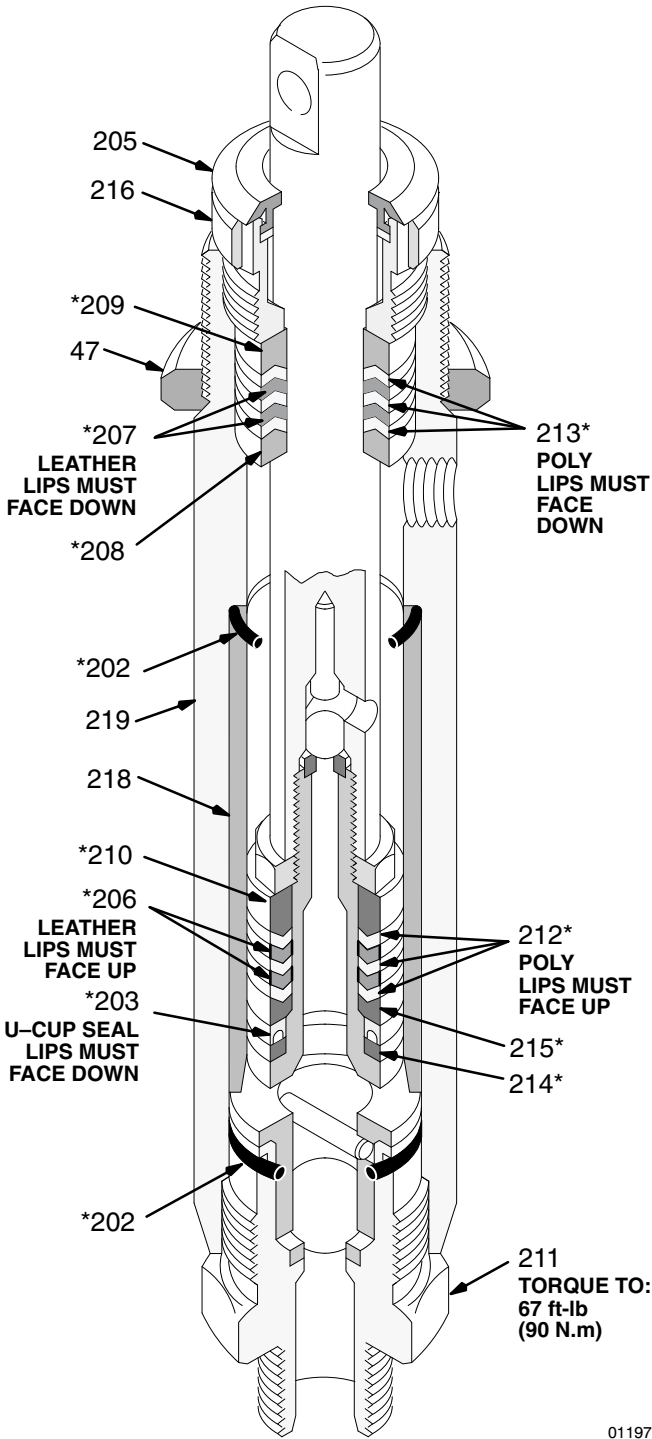
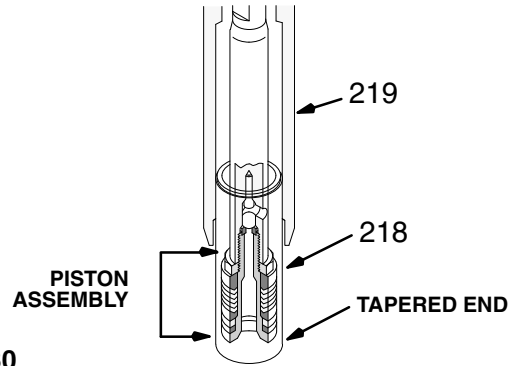

Fig. 29
Fig. 30
8. Stack the male gland (208\*), alternate packings (213\*,207\*), and female gland (9) into the top of the cylinder (219). See Fig. 29.
9. Install the packing nut (216) and plug (205), but leave loose for now. See Fig. 29.
**NOTE:** The tapered end of the sleeve is the bottom of it. See Fig. 30.
- Place a new o-ring (202\*) firmly in the cylinder groove. See Fig. 29
- Slide the sleeve/piston rod assembly **INTO THE BOTTOM OF THE CYLINDER**. This is to prevent packing damage during reassembly. See Fig. 30.
- Screw down the cylinder locknut (47) until it is finger tight at the bottom of the external cylinder threads.
- Place the flats of the intake valve (223) in a vise. Install a new o-ring (202\*). Screw the pump cylinder into the valve. Torque to 67 ft-lb (90 N.m). See Fig. 29.